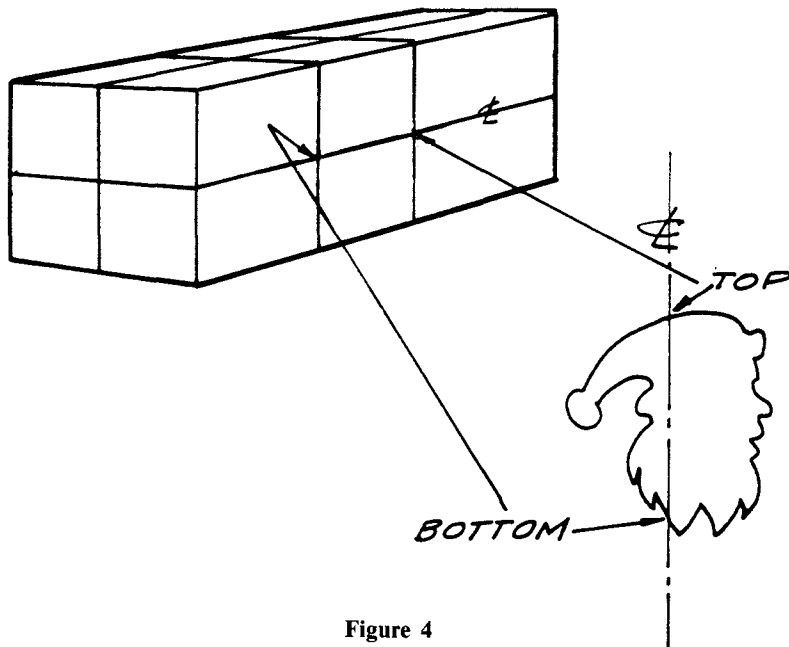

Figure 4
2. Mark the top and bottom limits of the profile on the center of the work piece as in figure 4.